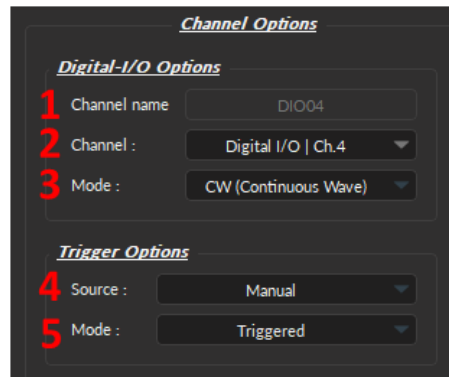

Figure 5.14: Channel(s) configuration window, Digital I/O Channel Options
1. The **Channel name** (Fig 5.14, 1) allows user to specify a label for each channel.
2. The **Channel** (Fig 5.14, 2) identifies the channels available to create a Digital I/O. The channel can be changed by selecting a new one from the drop-down list. Each numbered channel on the physical console corresponds to the same number of the digital channel within the software.
3. The **Mode** (Fig 5.14, 3) identifies the type of signal sent (for output channels) or the way the signal is measured (for input channels). Three modes are available:
1. The **Source** trigger option (Fig 5.14, 4) allows the choice of a **Manual Trigger** (activated by a user) or an **Input** trigger, coming from a **Digital I/O** channel set in input mode.
2. The **Mode** (Fig 5.14, 5) defines how the trigger activates a sequence. This includes input sequences, which can be triggered/gated by an outside source.
The parameters contained in the **Sequence Options** depend on the **Channel Mode** (selected in **Channel Options**, Fig. 5.14), as following:
- The **Square** channel mode (Fig. 5.14) allows the creation of a square TTL pulse sequence. This includes all sequence options as the **CW** mode (Fig. 5.17, 1-3), with the following additions: